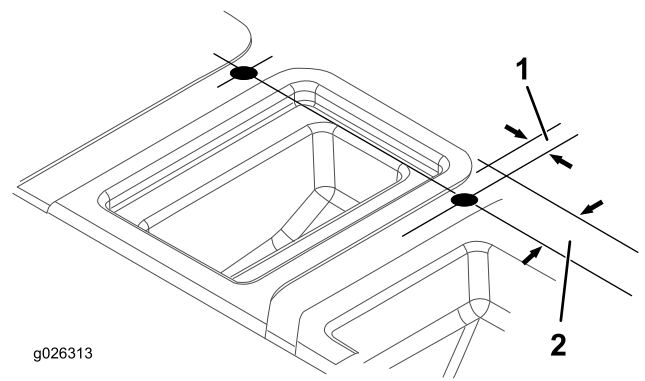

Figure 10
5. Using the dimensions shown in Figure 10, locate, mark, and drill 2 holes (1 inch) in the top of the seat base. Locate a hole on each side of the center compartment.